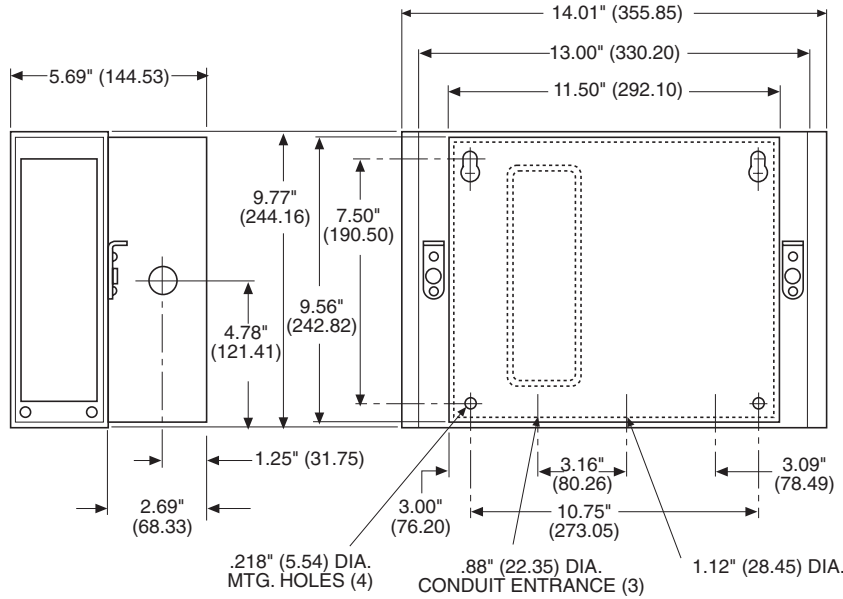

Figure 1 - Outline Dimensions
Refer to Figure 1, Page 6, for dimensional data and mounting hole locations.
- 3. Using the dimensional data in Figure 1, Page 6, mark and drill four (4) mounting holes using a #21 drill. Tap the four (4) holes using a #10-32 tap.
- 4. Start the top two (2) screws in the mounting holes but do not tighten. Leave sufficient space between the mounting surface and the screw heads to mount the control.
- 5. Carefully slide the large slots of the top two (2) mounting screw holes in the control chassis over the heads of the mounting screws already installed. Slide the control all the way down on the screws.